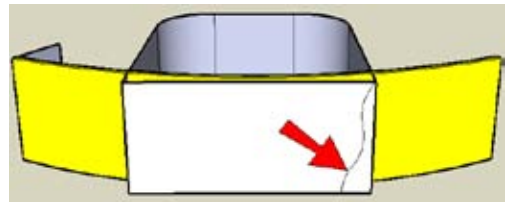

Figure 4-67
- On the back of the box, make a face like the one indicated in Figure 4-67, using tangent arcs.